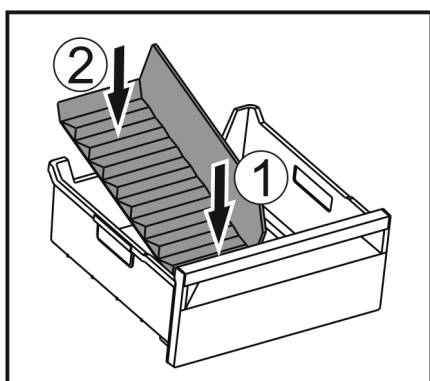

Fig. 150
- Insert the front part of the ice compartment divider. Fig. 150 (1)
- Lower the rear part of the ice compartment divider to the drawer bottom. Fig. 150 (2)